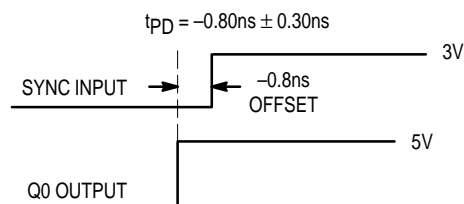

Figure 2. Depiction of the Fixed SYNC to Q0 Offset (t_{PD}) Which Is Present When a 1MΩ Resistor Is Tied to V_{CC} or Ground
- A 1MΩ resistor tied to either Analog VCC or Analog GND, as shown in Figure 2, is required to ensure no jitter is present on the MC88920 outputs. This technique causes a phase offset between the SYNC input and the Q0 output, measured at the pins. The t_{PD} spec describes how this offset varies with process, temperature, and voltage. The specs were arrived at by measuring the phase relationship for the 14 lots described in note 1 while the part was in phase-locked operation. The actual measurements were made with a 10MHz SYNC input (1.0ns edge rate from 0.8V to 2.0V). The phase measurements were made at 1.5V. See Figure 2 for a graphical description.